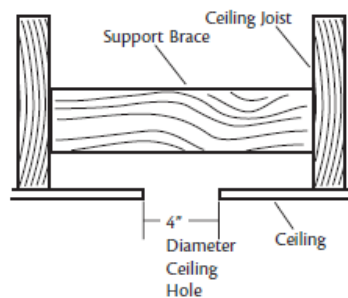

Figure 6 – Cutting the Ceiling Hole
2. Cut a 4" diameter hole through the drywall or plaster of the ceiling as shown in Figure 6. You will use the hole to install the support brace and outlet box.